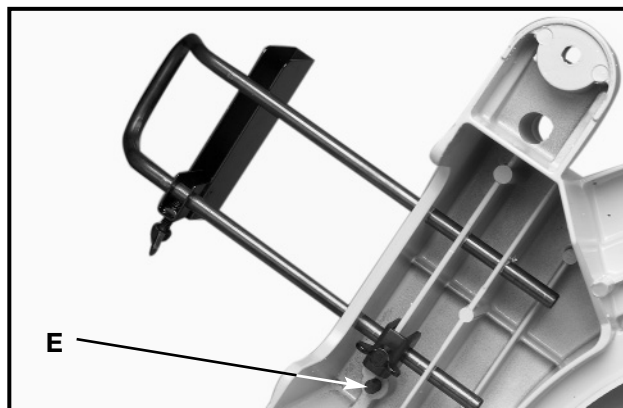

Fig. 7B
5. Tighten thumb screw (E) Fig. 7B.